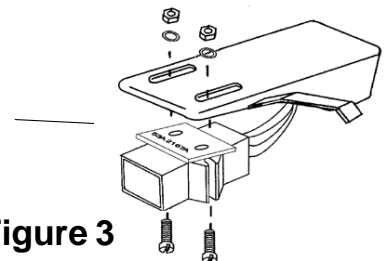

Figure 3
3. Attach the cartridge to the headshell using the screws supplied. See Figure 3. Tighten the screws after positioning the cartridge (and headshell weight, if desired) according to one of the methods described below.